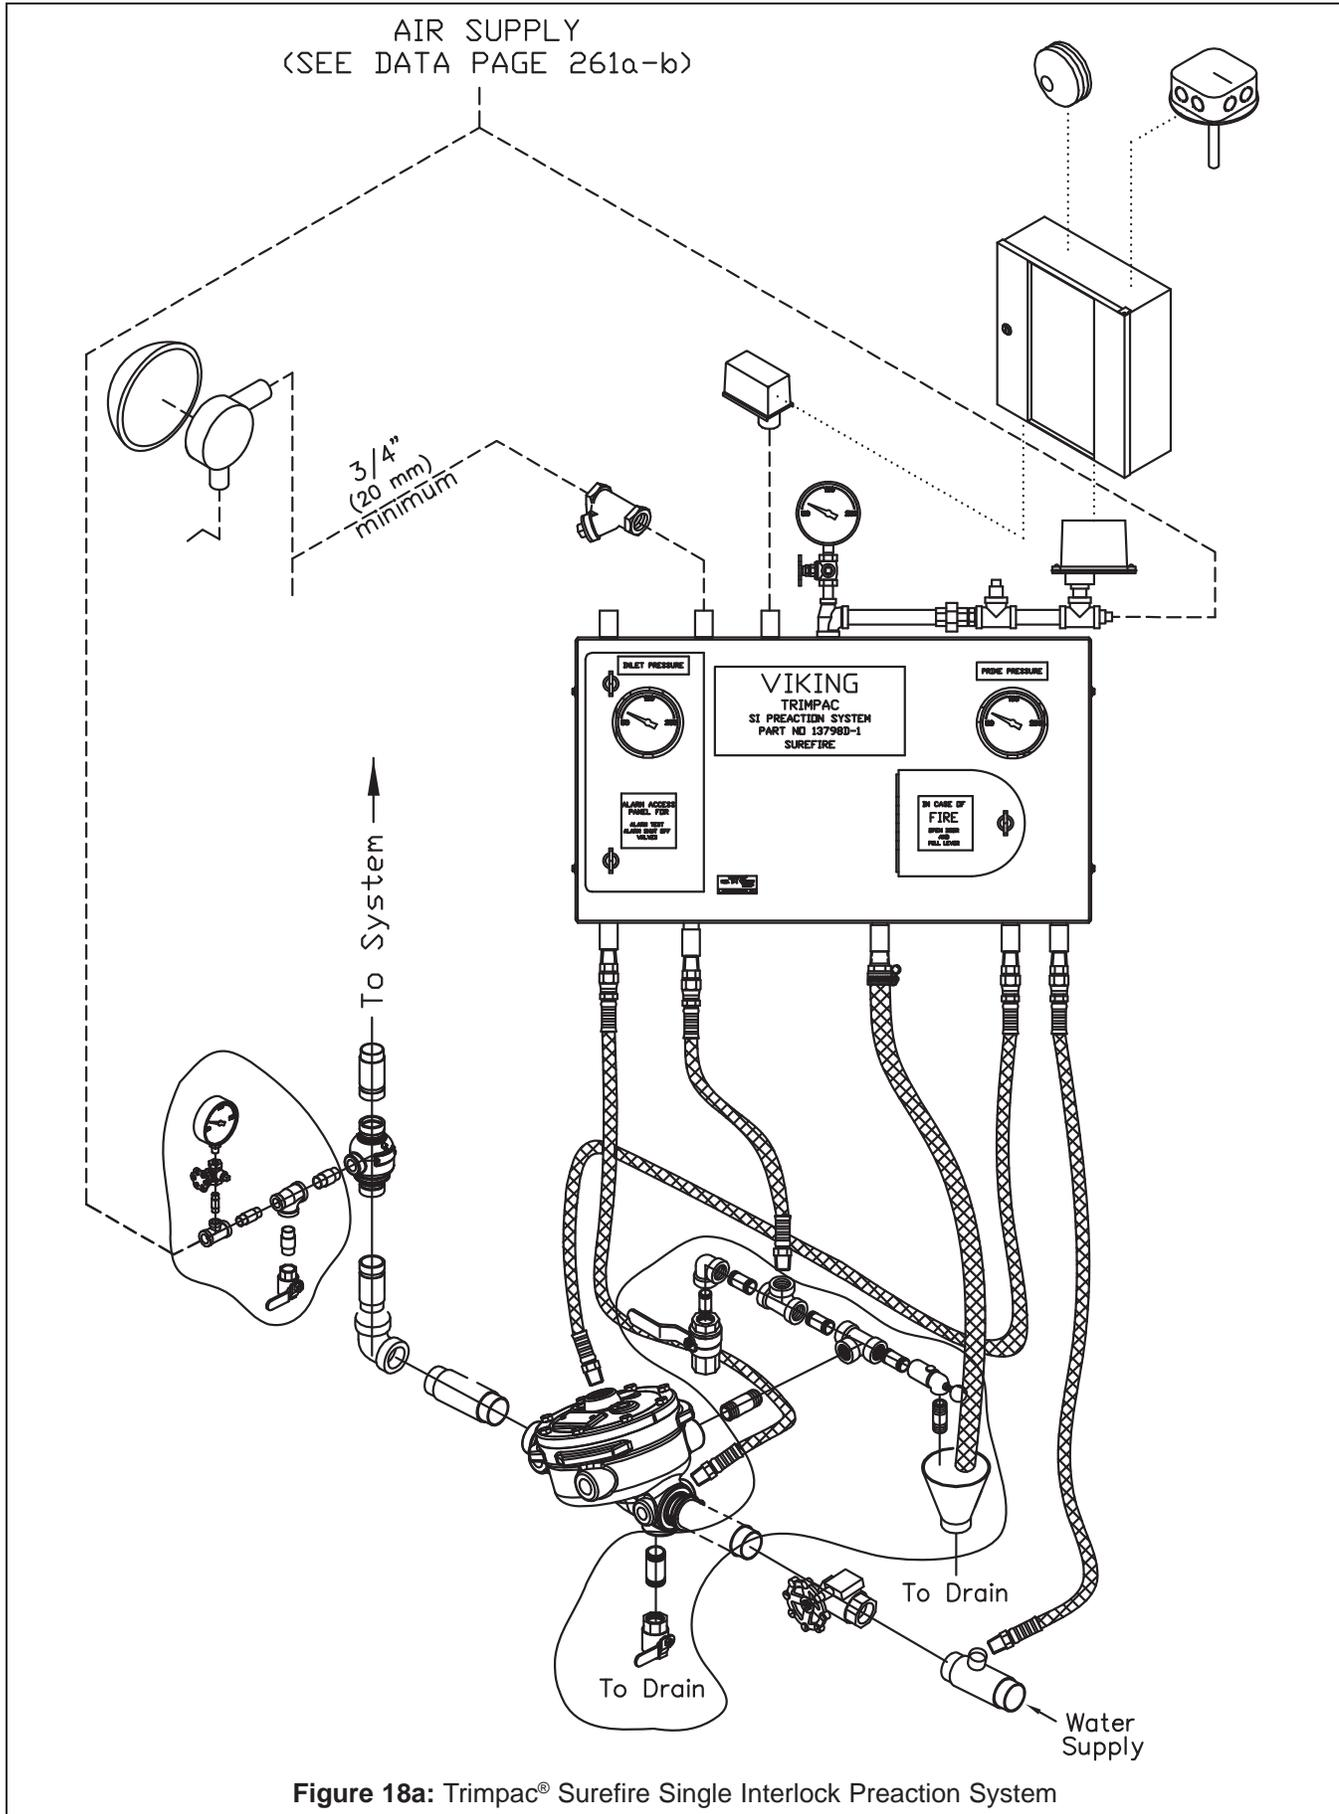

Figure 18a: Trimpac® Surefire Single Interlock Preaction System
1. Trimpac® Surefire® Single Interlock Preaction System (Figure 18a)